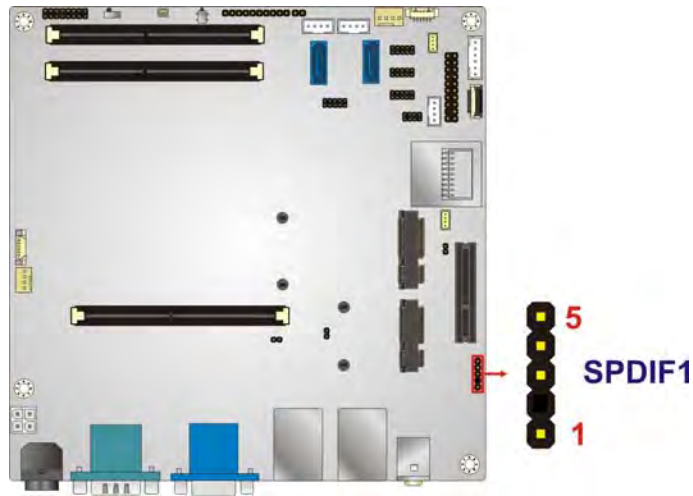

Figure 3-24: SPDIF Connector Location
- CN Location: See **Figure 3-24**